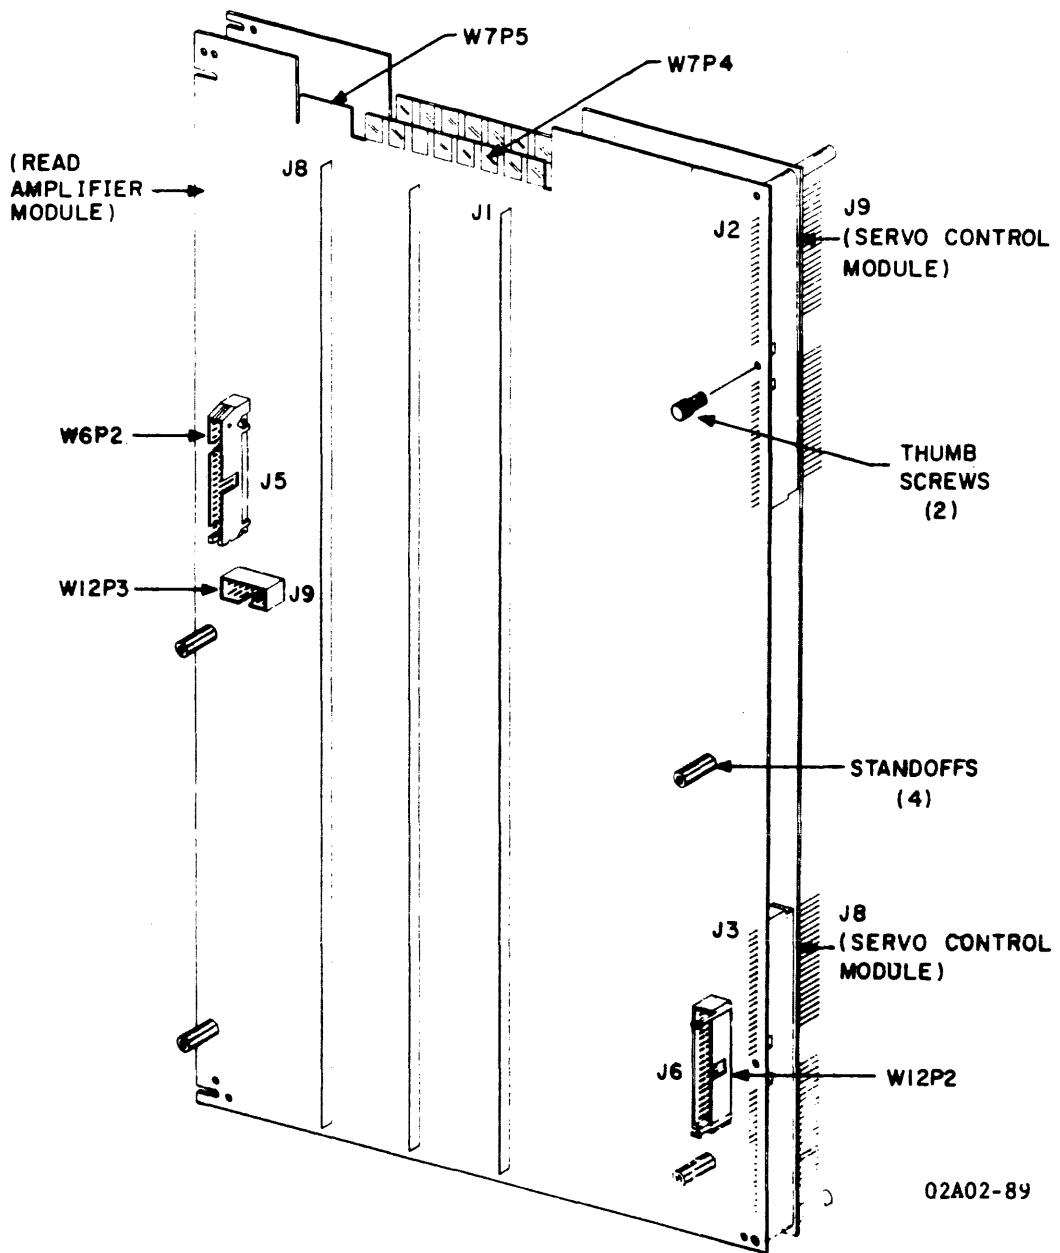
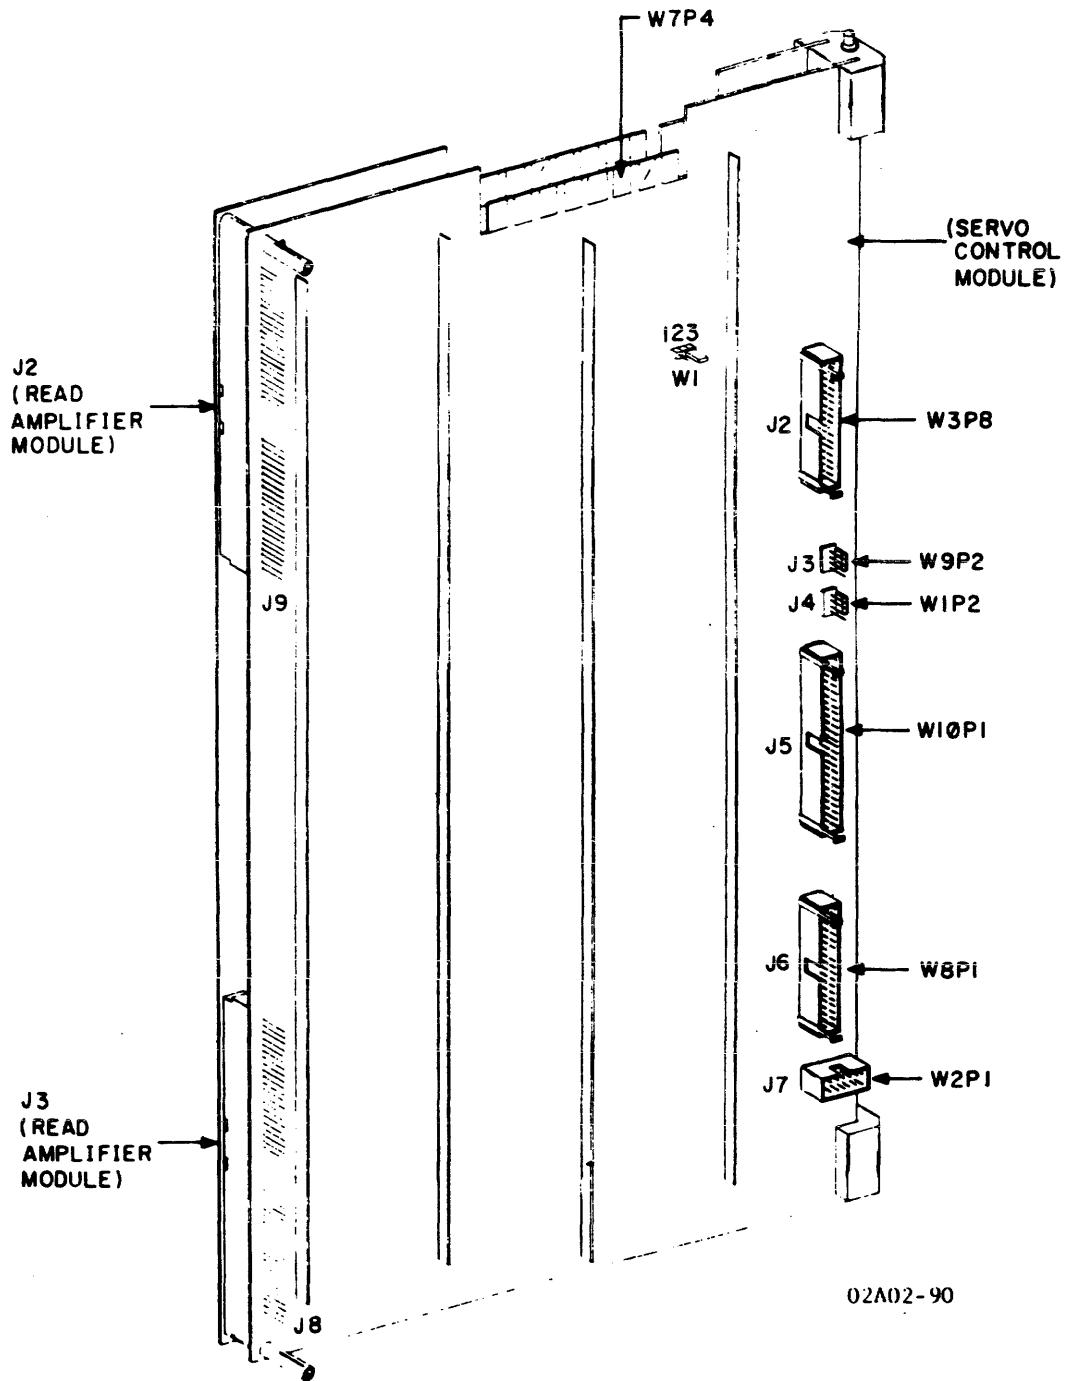

Figure 5-28. READ AMPLIFIER MODULE CONNECTORS
Figure 5-29. SERVO/CONTROL MODULE CONNECTORS
3. Swing the modules slightly to the left. Remove both connectors (W7P5, W7P4) at the top of the Read Amplifier and Servo Control Modules (Figure 5-28).
5. From the Servo Control Module, remove connectors W3P8, W10P1, W8P1, and W2P1 (Figure 5-29). Remove connectors W6P2 (to read/write head), W12P2, and W12P3 from the Read Amplifier Module (Figure 5-28).
12. If you need to replace the Servo Control or Read Amplifier module, loosen the thumbscrews on the Read Amplifier module at J2/J9 and J3/J8 (Figure 5-28). Then slide the module to be replaced out of the brackets and separate the modules.
1. Join the Read Amplifier and Servo Control Modules and partially secure by installing and tightening two thumbscrews as shown in Figures 5-28 and 5-29.
5. Install connectors W6P2 (from read/write head), W12P2, and W12P3 to the Read Amplifier Module (Figure 5-28). At the Servo Control Module, install connectors W3P8, W10P1, W8P1, and W2P1 (Figure 5-29). Install the read/write head cables.
6. Install connectors W7P5 and W7P4 to the top of the Read Amplifier and Servo Control Modules (Figure 5-28). Slide the module assembly into the operating position and secure with the logic cage latch (Figures 5-25 and 5-26).
2. Move jumper W1 at location D23 on the servo control module to the 1-2 position (Figure 5-29).